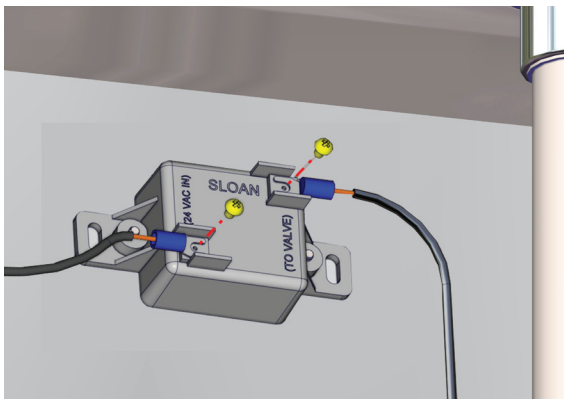

Fig. 17: IR sensor wire connections
15. Reconnect the wire spades to each IR sensor. Use your improvised left/right identifier tags to connect the wire ends to the correct IR sensor position (Fig. 17).